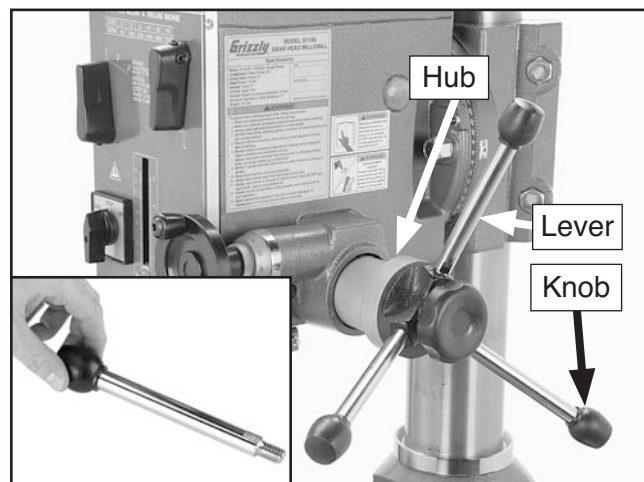

Figure 21. Feed levers.
16. Screw the levers with knobs into the threaded holes on the hub, located on the right side of the machine (**Figure 21**).